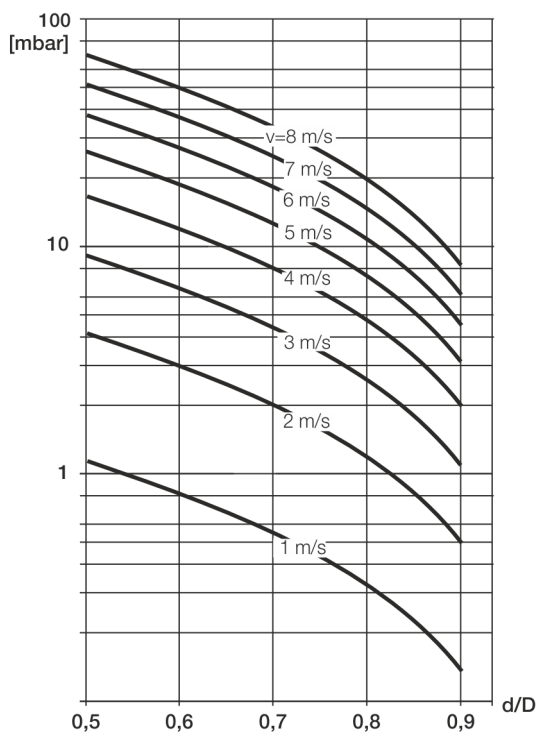

Figure 21: Flow rate nomogram for flange transition piece at  $\alpha/2 = 8^\circ$
2. Determine the flow velocity based on the flow rate nomogram (Figure 21).
3. Read the pressure loss on the Y-axis in Figure 21.